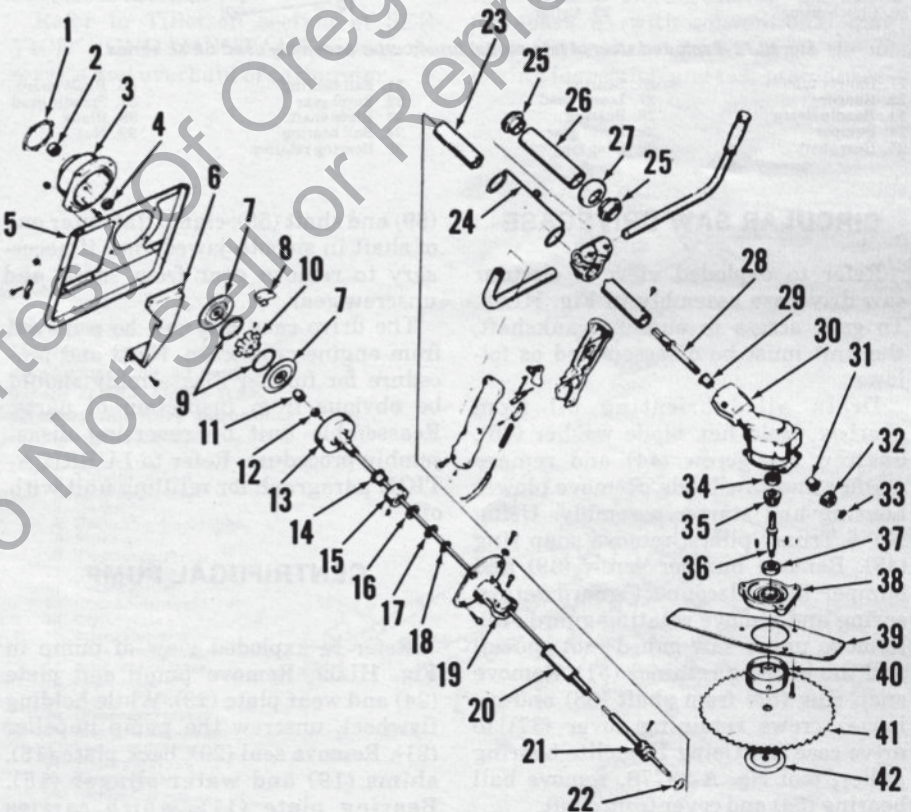

Fig. HL71—Exploded view of early type brushcutter assembly. Refer to Fig. HL72 for later brushcutter.
To gain access to crankshaft bearing housing (3—Fig. HL71 or HL72), or engine crankshaft, proceed as follows:
On early models, unbolt upper head (26—Fig. HL71) from bearing housing and remove brushcutter unit and frame (5). While holding engine flywheel, remove nut (12), spacer (11) and outer clutch cover; then unscrew clutch hub (10) from engine crankshaft. Remove inner clutch cover. Bearing housing can now be removed from engine crankcase. Note: Some early models have a flexible driveshaft instead of the rigid driveshaft shown in Fig. HL71. To remove nut (42) from blade shaft, insert a ¼ inch steel rod in hole in spindle head (40) to hold shaft from turning.